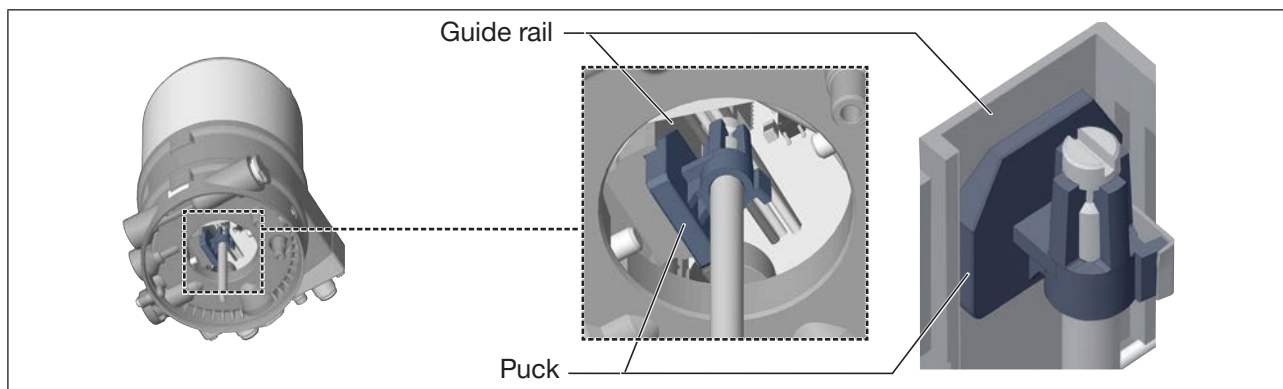

Figure 16: Aligning the puck
2. Align the puck of the actuator with the guide rail of Type 8692/8693 (see “Figure 16”)